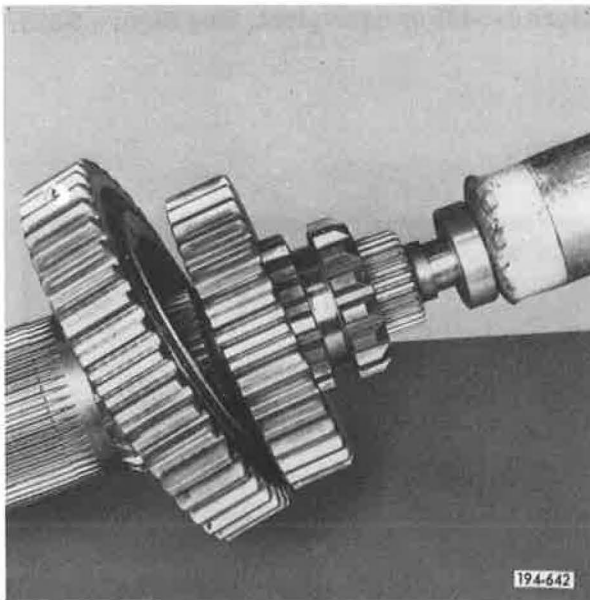

Figure 5-516. Installing Bearing
19. Install spigot bearing onto front of front mainshaft, using a soft mallet or a suitable driving sleeve. Apply force to the inner race only. See Figure 5-516.